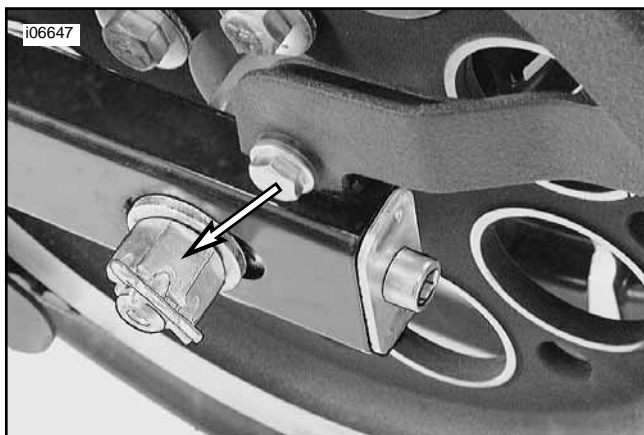

Figure 3. Dyna Rear Axle
For Dyna: See Figure 3.
- See Figure 3. Lubricate the new steel/rubber gaskets (1) with the grade of brake fluid that will be used to fill reservoir. Connect the rear brake line (3) to the caliper using banjo bolt (2) and two new gaskets (1). Torque the banjo bolt to 17-22 ft-lbs (23.0-29.8 Nm).